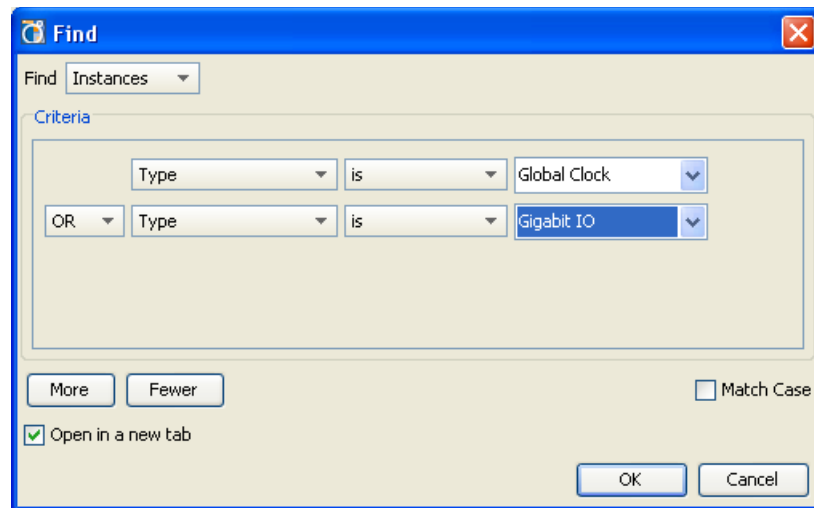

Figure 29: Searching for Global Clocks and Gigabit I/Os
4. Adjust the selection filters to match Figure 29.